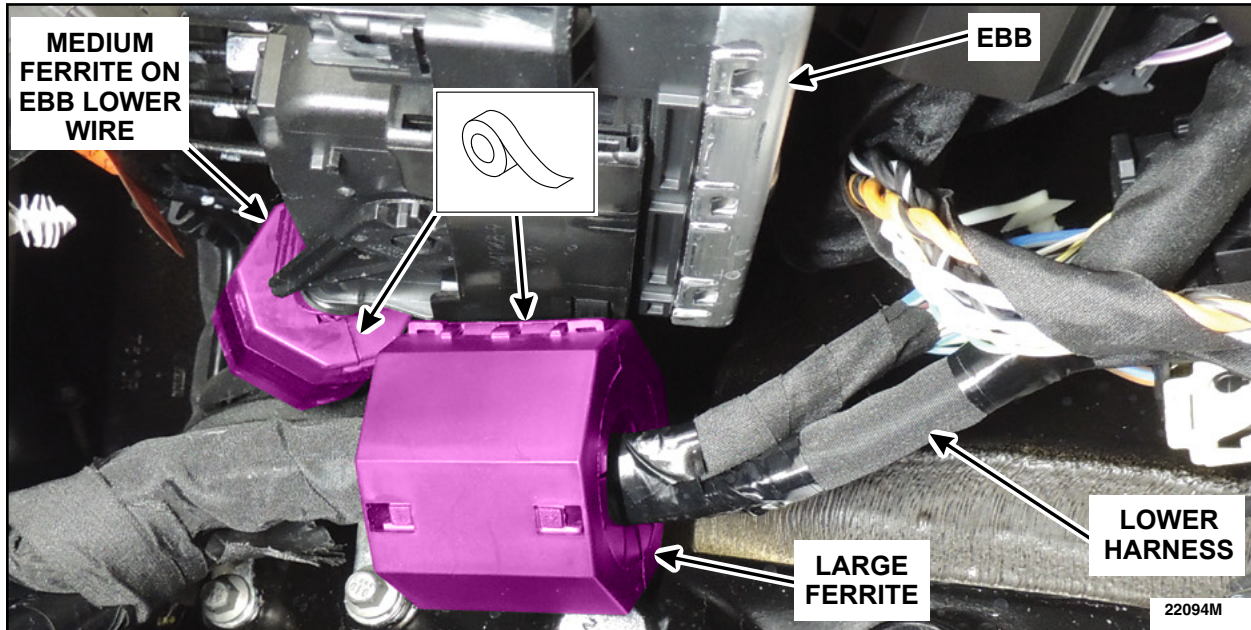

FIGURE 14
20. Install a **MEDIUM** ferrite (item B) onto the lower EBB wire and a **LARGE** ferrite (item A) to the lower wiring harness. See Figure 14. Apply 3 wraps of Coroplast® tape around the ferrites to secure it closed.